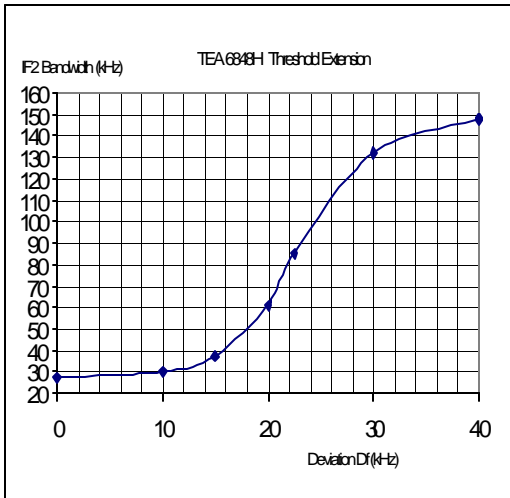

Fig. 26b IF-Bandwidth = f (freq. deviation)
- **Threshold Extension:** An extra benefit of this control loop is that at low modulation-deviation the IF noise bandwidth can be reduced at low RF levels, when permitted (see Fig. 26b) by the modulation detector. This has been done for input signals $V_a < 4.5\mu V$. As a consequence, the demodulator threshold is lowered and the effective receiver sensitivity is improved (Fig. 27). On/off switching of the threshold extension can be done by Bus.